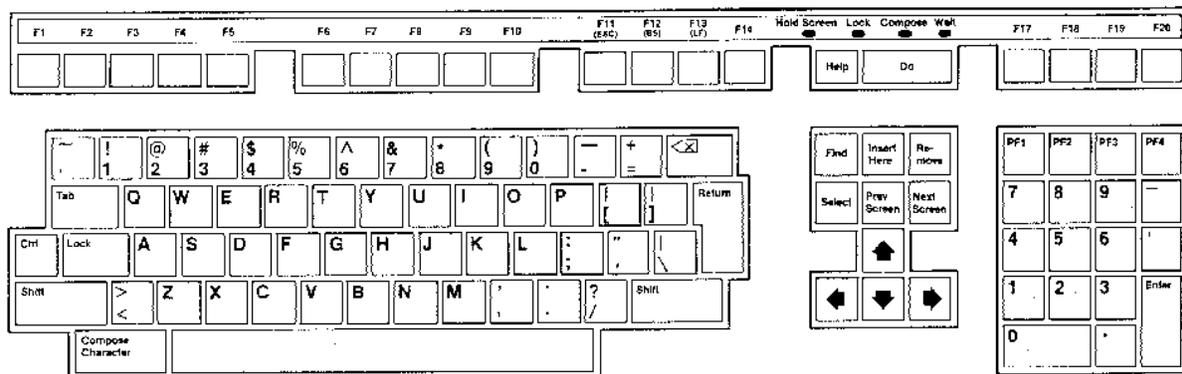

Figure 2 - Keyboard
The System Manager uses a standard keyboard (Figure 2). Through the uses of the cursor (arrow) keys and the various function (F) keys, you will be able to enter or change information. A highlighted bar on each screen will show you which field is active and ready to receive information. A blinking cursor within the highlighted area shows you where the next character will be typed.